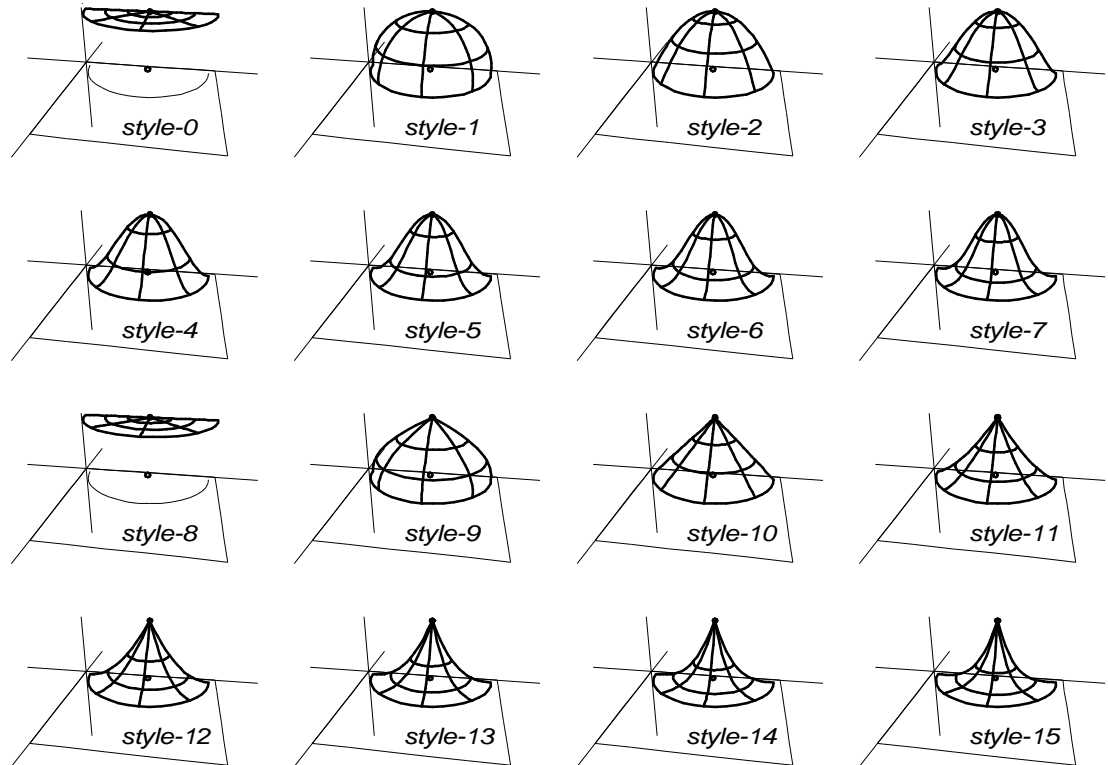

Fig. 1. Sixteen styles of Blister surface, demonstrated with:
Style selects the characteristic profile of the blister and the way it contacts the parent surface. There are 16 styles (Fig. 1):
- styles 9-15 comprise a "second generation" of Blisters whose junction with the base surface along Snake1 is similar to styles 1-7 respectively, but which end at Apex with a slope rather than a rounded summit. When Apex is a point, the style 9-15 blisters come to a sharp (conical) point there, rather than a rounded dome (Fig. 1).
In Fig. 1, the sixteen styles of Blister are demonstrated with: